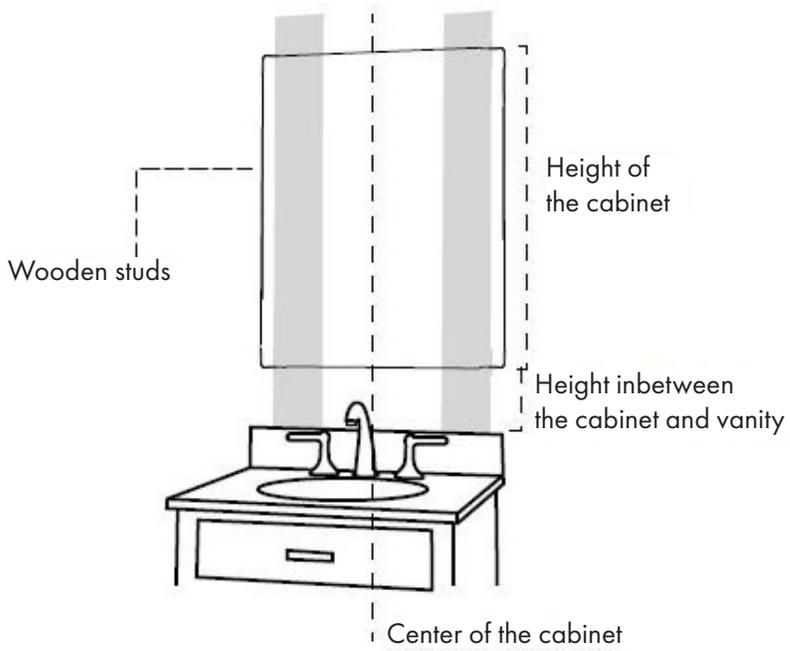

Fig. 1
1. Center your cabinet in desired location on the wall. For secure application, locate the studs within the wall to mount the cabinet properly. If you cannot locate the studs, you will need to purchase additional hardware to secure your cabinet to the wall and/or open the wall to install additional bracing. (Figure 1)
3. Allow for 1" of clearance on height elevation above any obstructions as illustrated in Figure 1. \* Note the door will exceed the cabinet body by 1" on top and bottom of most cabinets. Refer to technical data for exact sizes.